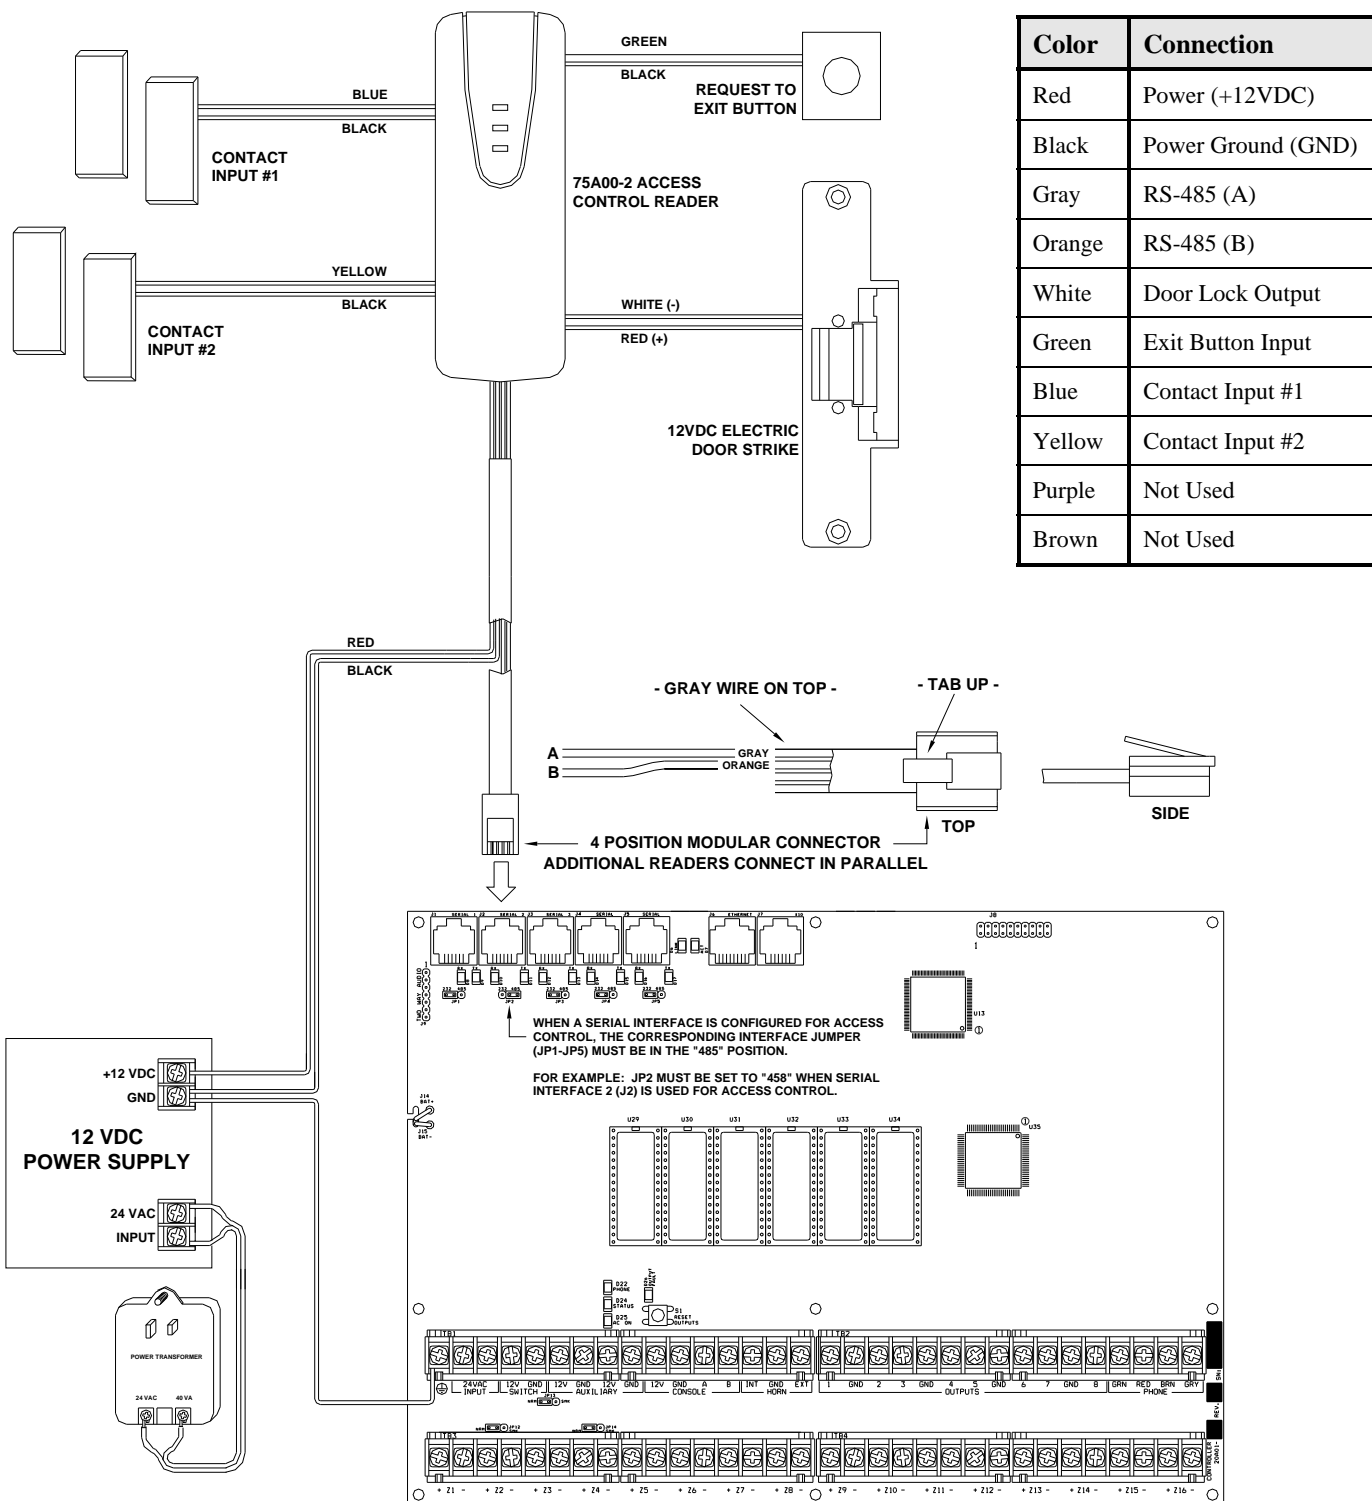
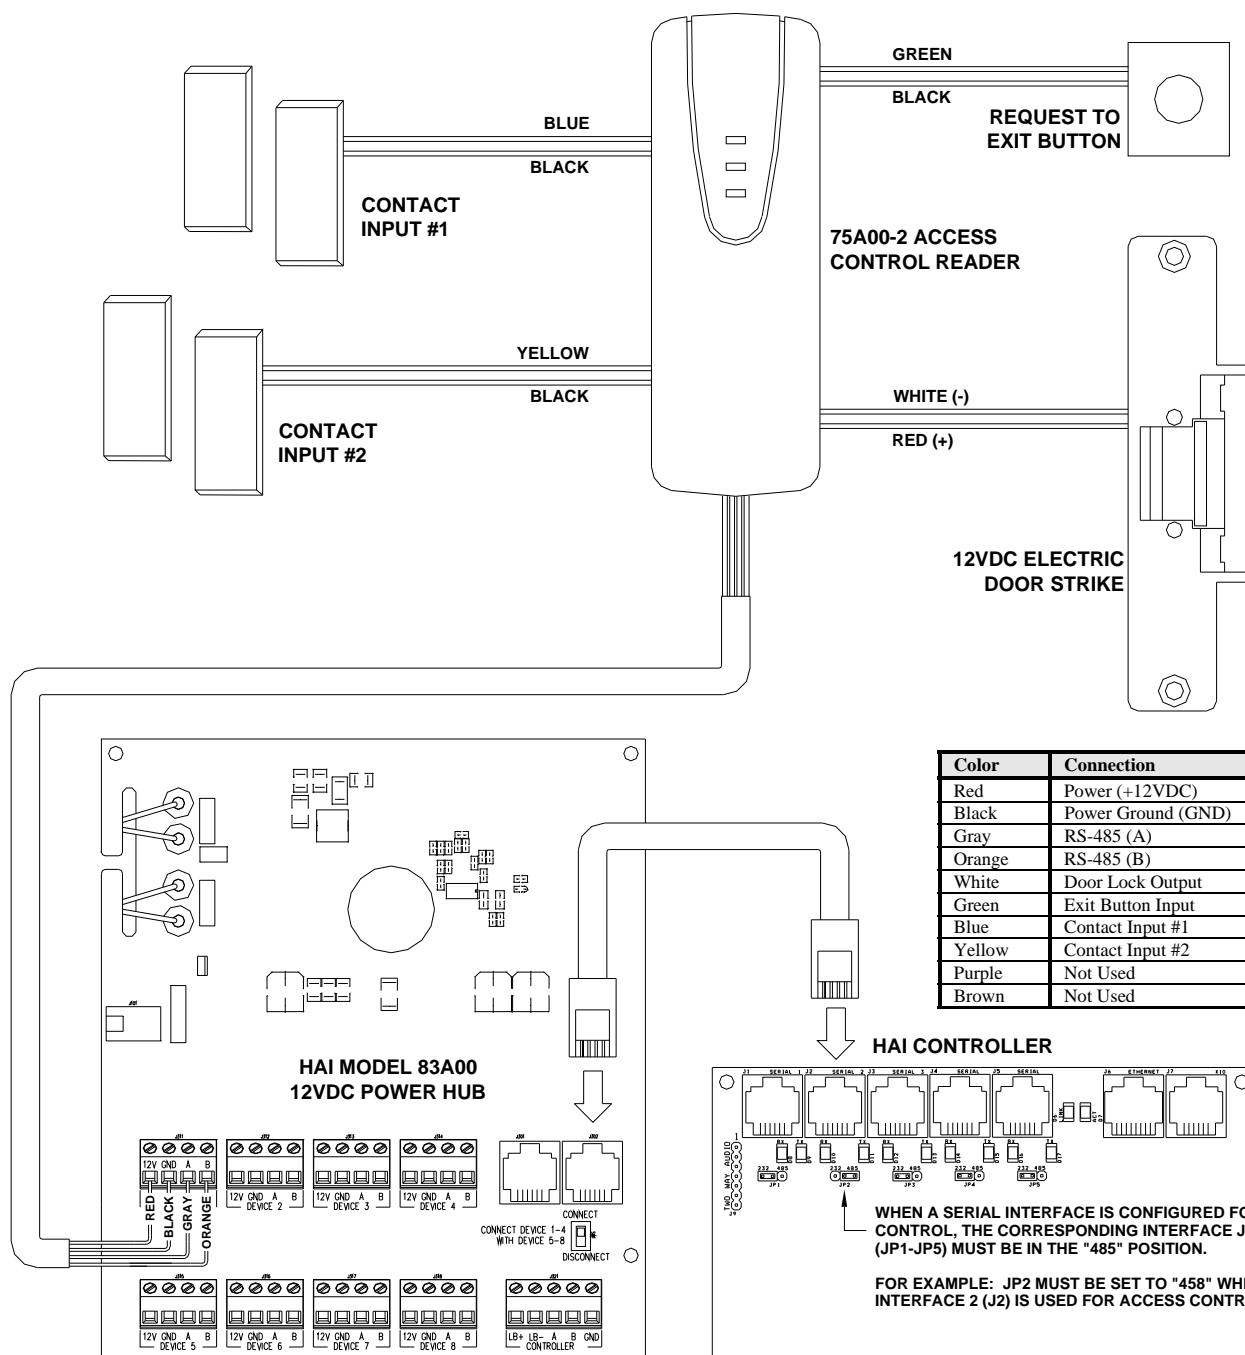

Figure 2 - Connections to the 75A00-2
Figure 3 – Connections to the 83A00 Power Hub
- 4) Make the connections to the 75A00-2 as shown in Figure 2 or Figure 3.